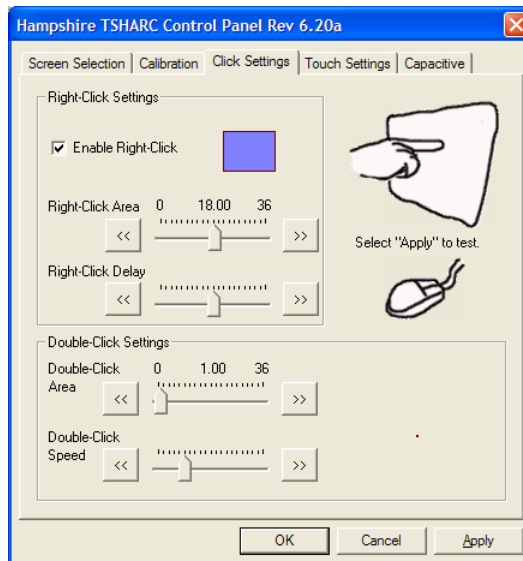

Figure 18 M6000 Controller, touch screen calibration.
- 7 The right mouse button function for the touch screen is enabled as shown in Figure 18. After that you can perform a right mouse